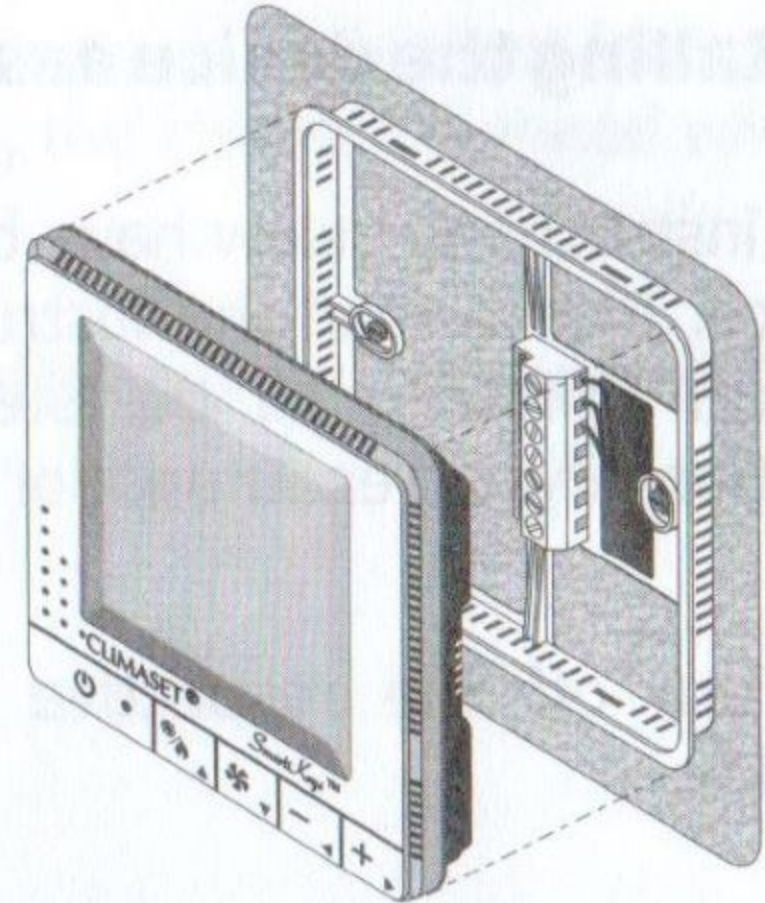

Fig. 4
⑤ Wiring techniques: Please refer to Appendix A. for proper wiring.
⑥ Mounting the unit: Hold the thermostat face parallel to the wall surface. Do not incline the thermostat face. Match the needles on the back of the thermostat with the holes on the terminals of the mounting plate. push the thermostat gently over the needles until the latches snap closed. (Fig. 4)
⑦ Turn on the circuit breaker. The device will be operational.